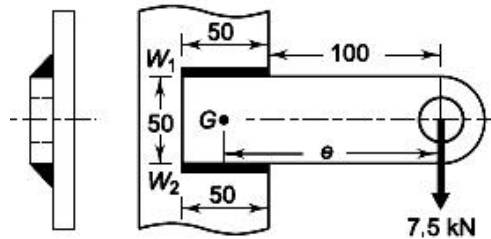

Fig.3
b) A welded connection, as shown in Fig.3 is subjected to an eccentric force of 7.5 kN. Determine the size of the welds if the permissible shear stress for the weld is 100 N/mm^2 . Assume static conditions.